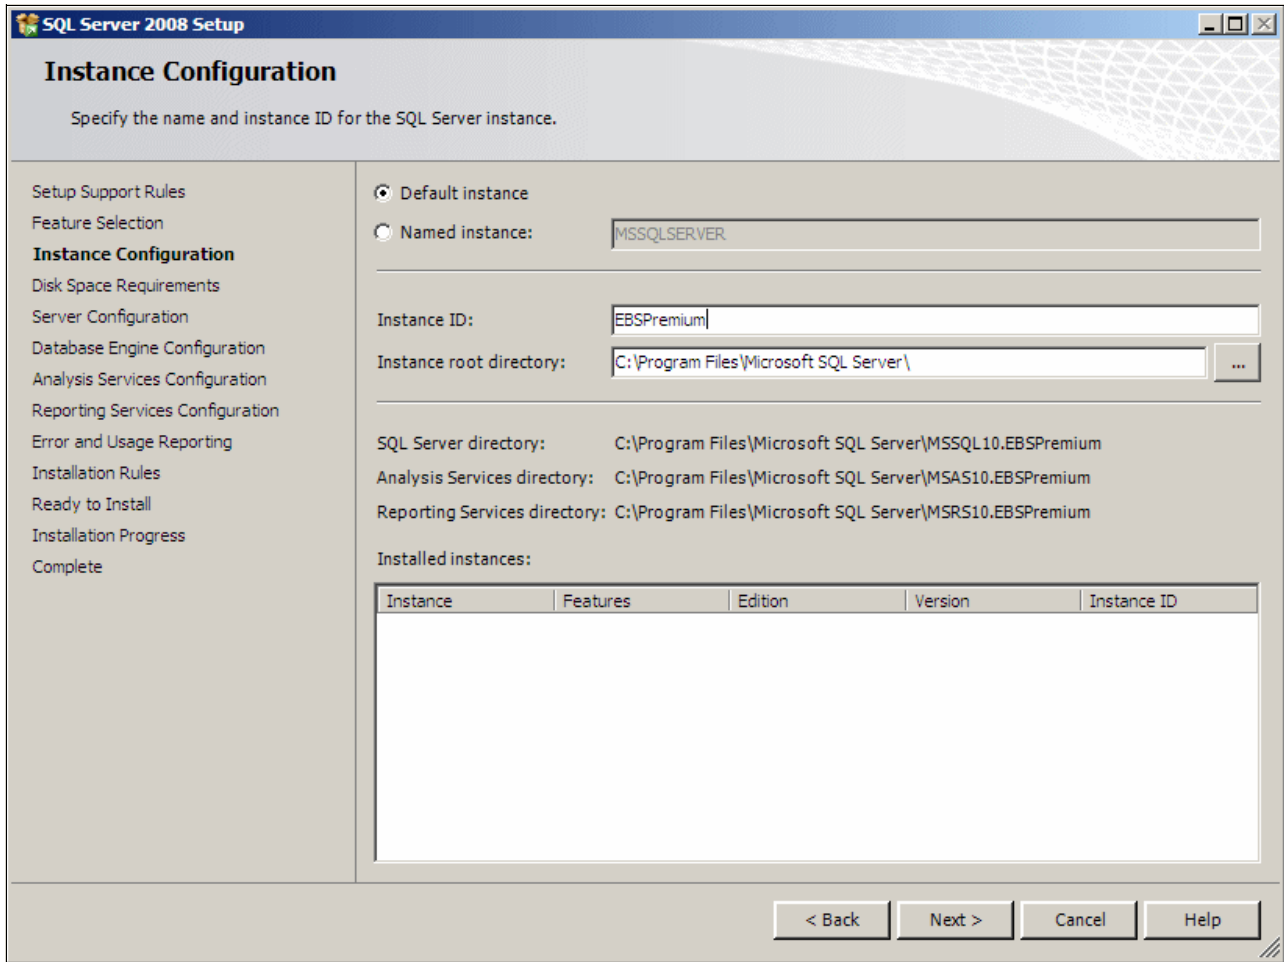

Figure 6-25 SQL Server instance naming panel
9. SQL Server 2008 requires an instance to be created and a unique ID. On the “Instance Configuration” panel Figure 6-25 on page 157) we created a default instance with the basic name convention of EBSPremium. Click **Next**.